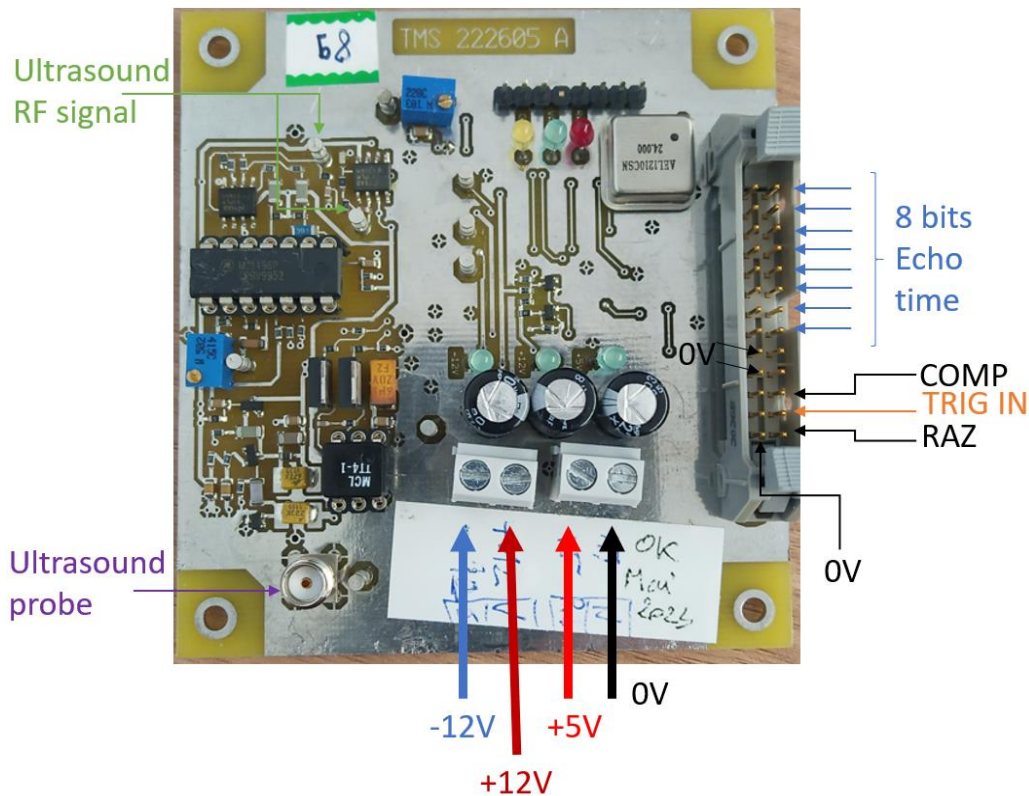

Figure 1 – Pulser board
- Connect the **Ultrasound probe** to the Pulser board (SMA connector on figure 1)